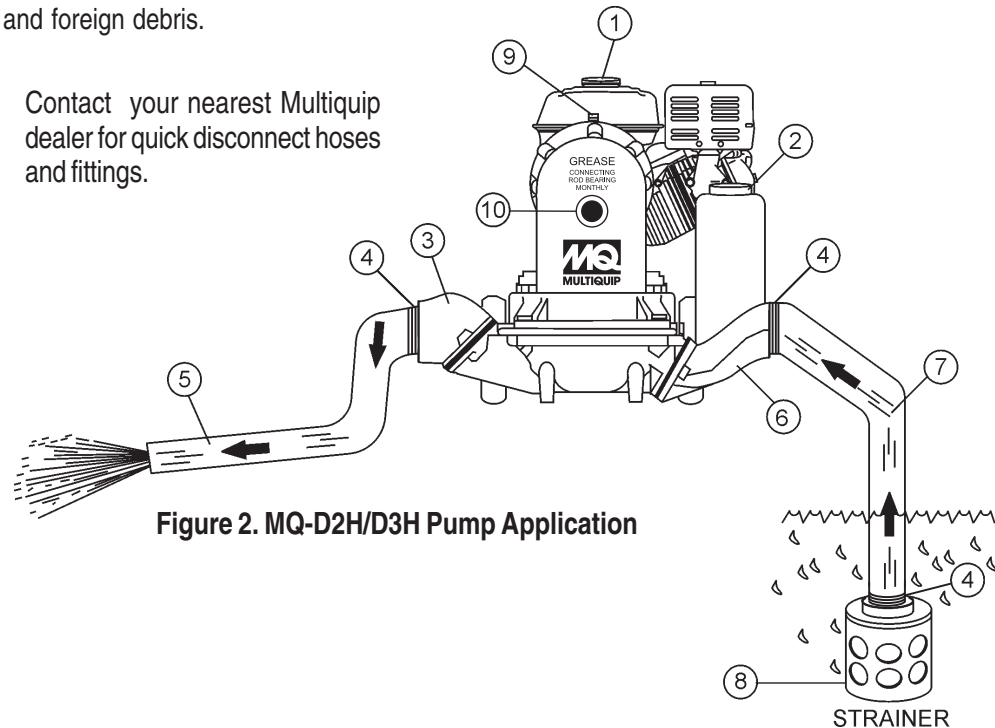

Figure 2. MQ-D2H/D3H Pump Application
Figure 2 shows a typical application using the MQD2H or MQD3H diaphragm pump. Please note that this pump is intended for the removal of clean water and water containing some debris and solids. Maximum size of solids for the MQD2H should not exceed 1-1/2 inches (38.1 mm) in diameter, and maximum size of solids for the MQD3H should not exceed 1-5/8 inches (41.275) in diameter. **DO NOT** set strainer on bottom of water bed. Placing the strainer above the water bed will prevent the pump from drawing in excessive amounts of sand and foreign debris.
1. Check that all hoses are **securely** attached to the pump. Make certain suction hose (Figure 2) does not have any air leakage. Use teflon tape or pipe dope on NPT threads.
3. Check that the **discharge** hose (Figure 2) is not restricted. Place hose so that it lays as straight as it is possible on the ground. Remove any twists or sharp bends from hose which may block the flow of water.
5. Make sure the **suction strainer** (Figure 2) is clean and securely attached to the water end of the suction hose. The strainer is designed to protect the pump by preventing large objects from being pulled into the pump.